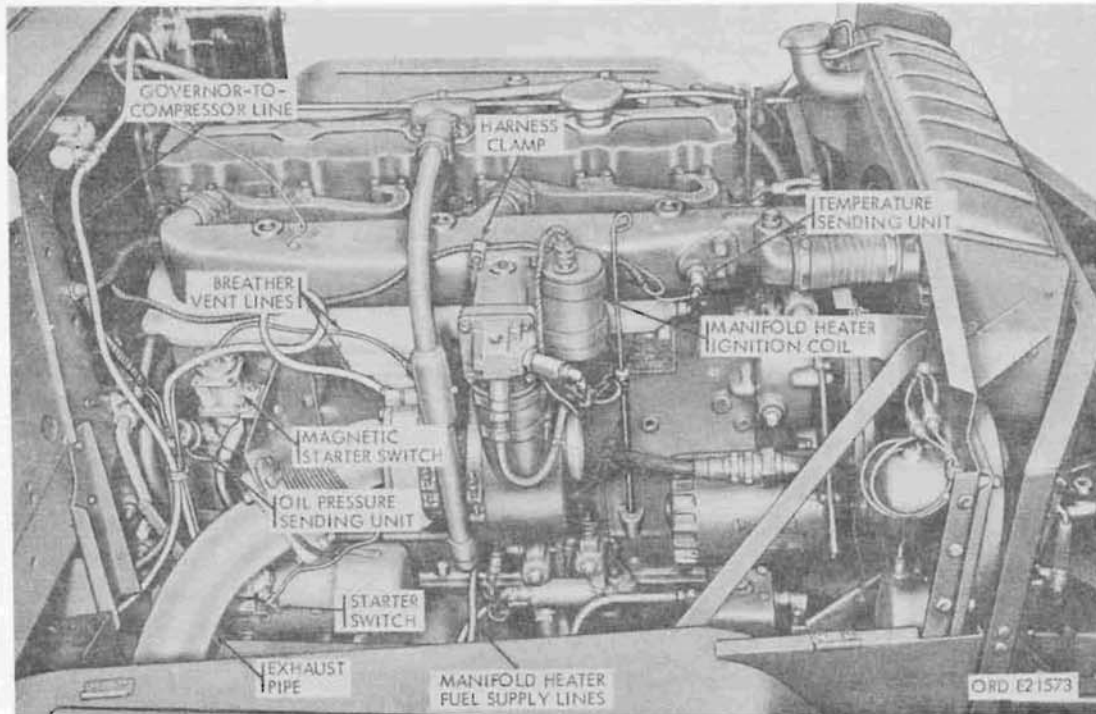

Figure 110. Disconnect points at right side of multifuel engine
- (3) Disconnect fuel return line from fuel filter.
- (4) Disconnect fuel shutoff control. Remove cotter pin, castellated nut, washer and screw. Disconnect fuel shutoff valve.
(5) Disconnect fuel inlet line from fuel injector pump.
(6) Disconnect air compressor outlet line from air compressor.
(7) Disconnect tachometer flexible shaft. Refer to paragraph 134b for the removal of the tachometer flexible shaft.
(8) Disconnect the engine ground strap. Loosen the hex-head screw and slide the strap from under the head. Retighten the screw.
(9) Disconnect the generator-to-regulator cable. Disconnect the generator-to-regulator cable at the generator. Tie or tape the end of the cable to a portion of the engine to prevent damage to the cable when the engine is lifted out of the frame.
d. *Disconnect Points at Right Side of Engine (fig. 110).*